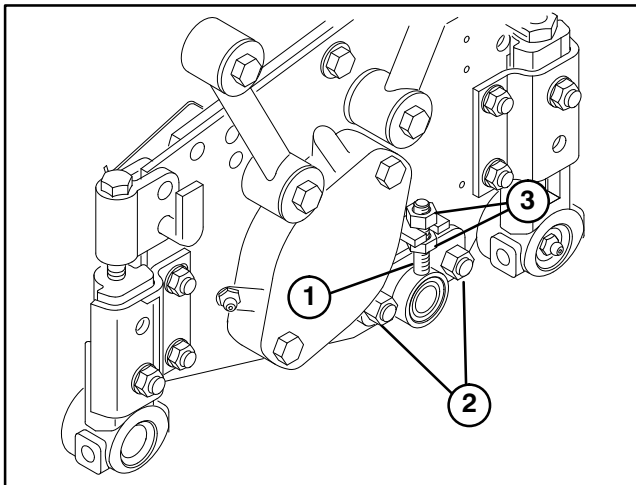

Figure 4
4. Loosen (2) carriage bolts on bedbar adjuster (Fig. 4).
5. Adjust nuts to move bedbar adjuster up or down until paper is pinched along entire bedknife surface, when bedknife adjustment knob is adjusted to no more than two clicks beyond first contact of reel bedknife (Fig. 4).